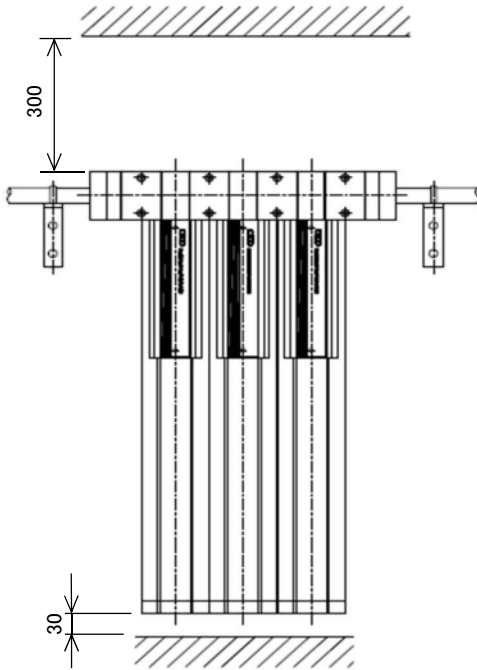
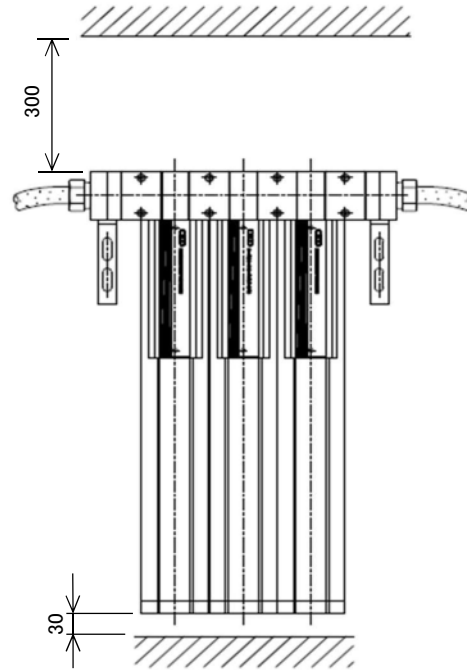

Fig.7
Fig.8
- 1) Both inlet and outlet pipes must be fixed, when the Nitrogen gas extraction unit will be used as suspended by pipes, or a filter will be installed before or after itself. (Refer to Fig.7) The dryer body can be fixed with brackets, also. (Refer to Fig.8)
- 2) Allow a minimum of 300 mm upward and 30 mm downward for maintenance purpose. (Refer to Fig.7,8)